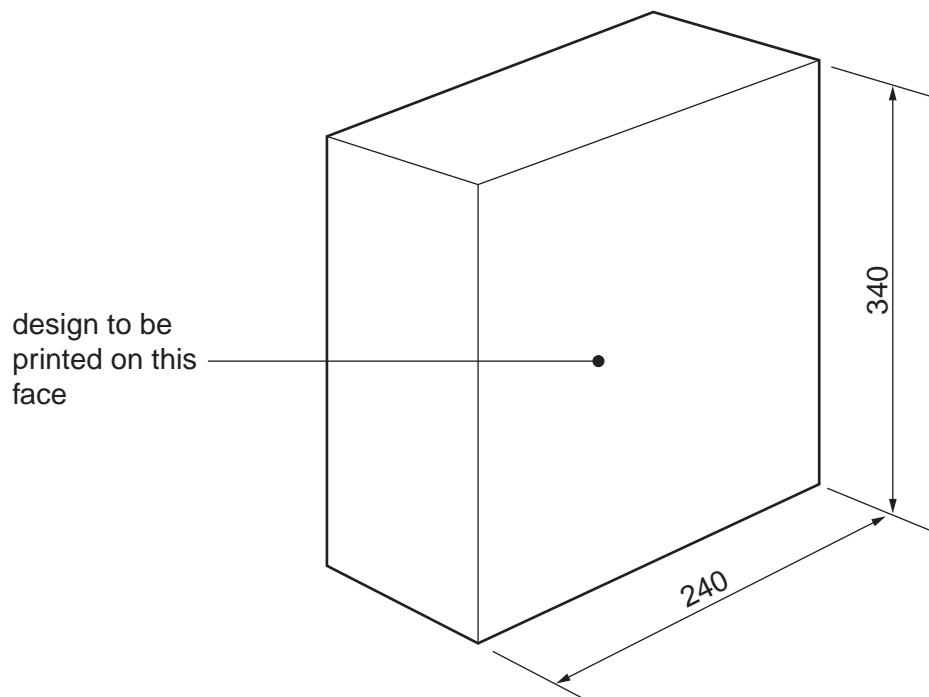

Fig. 5
- fits on the back of the box shown in Fig. 5;